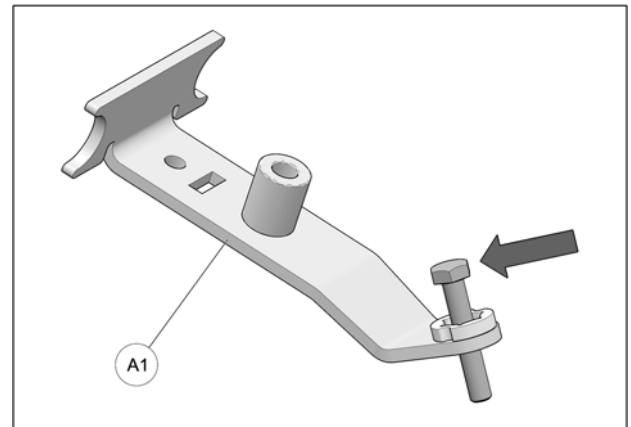

Fig. 10
- Insert bolt in front anchor bracket (A1) as shown in Fig. 10